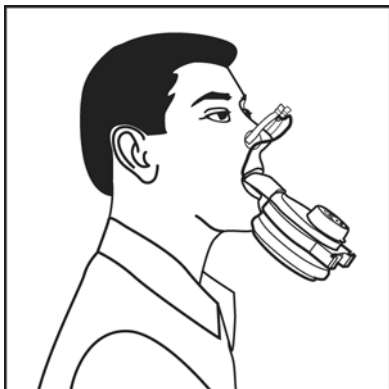

Fig. 1
3. Place nose clip on nose completely closing off nostrils. You should not be able to breathe through your nose. Reposition if necessary. Fig. 1 shows proper donning of a 3M™ 5500 Series Respirator.